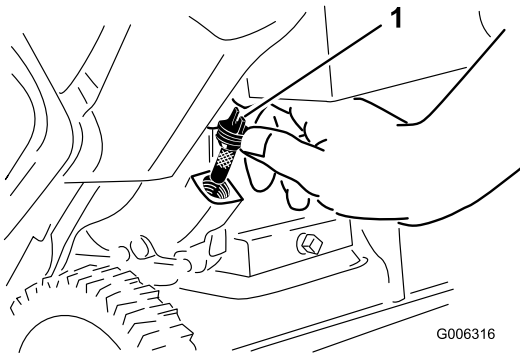

Figure 29
6. Clean around the oil fill cap (Figure 29).
7. Unscrew the oil fill cap and remove it (Figure 29).